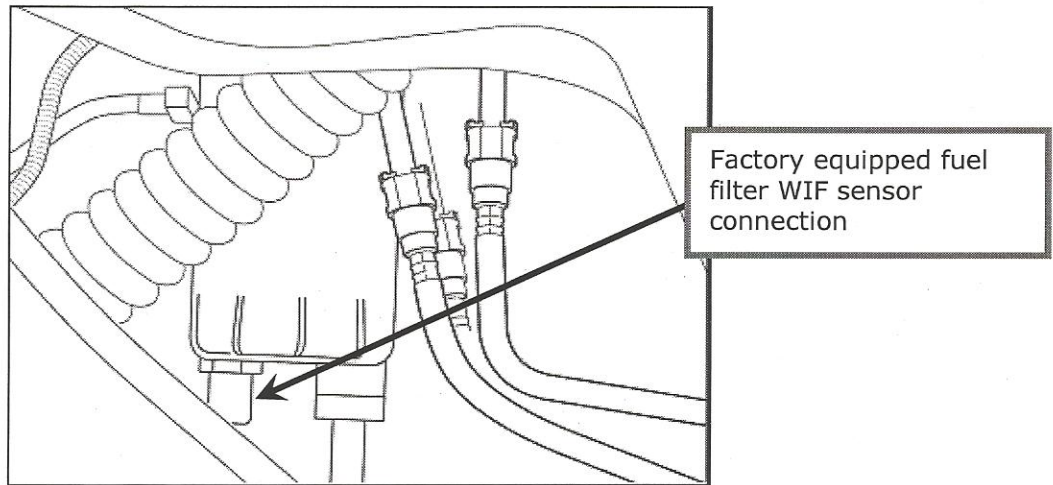

Figure 9
10. Connect SDFK wiring harness WIF sensor connector to the WIF sensor (or pigtail on 5.9L) located on the factory equipped fuel filter (See Figure 9).
11. Connect SDFK wiring harness connection to vehicle harness WIF connection (See Figure 9).